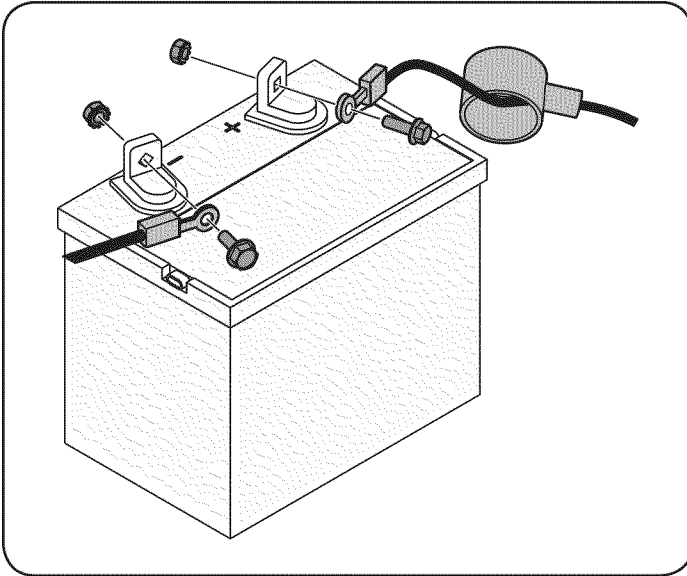

Figure 7
1. Remove the plastic cover, if present, from the positive battery terminal and attach the red cable to the positive battery terminal (+) with the bolt and hex nut. See Figure 7.
2. Remove the plastic cover, if present, from the negative battery terminal and attach the black cable to the negative battery terminal (-) with the bolt and hex nut. See Figure 7.